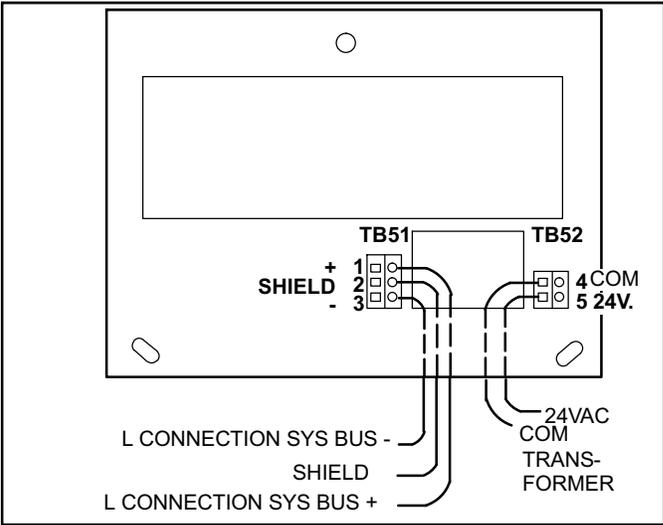
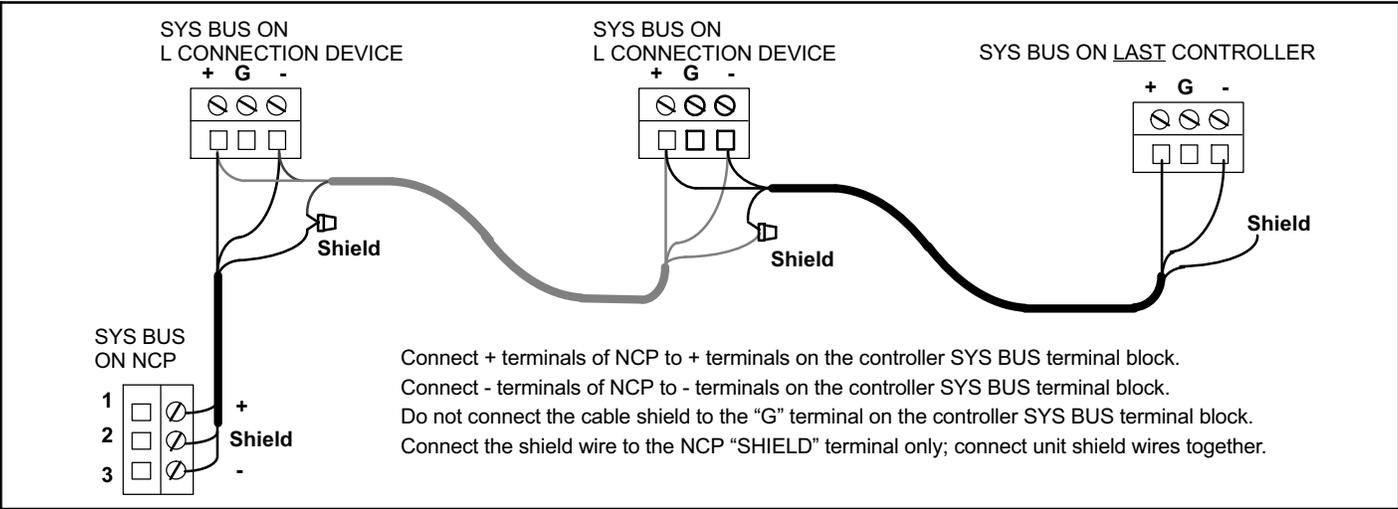

Figure 3. Network Control Panel (NCP) Wiring
Figure 5. L Connection® Network Daisy-chain Communication Wiring
2. Make wire connections as shown in figure 3. When more than one L Connection Controller is used in the same network, daisy chain the communication wires to other Controller terminal blocks. See figure 5.